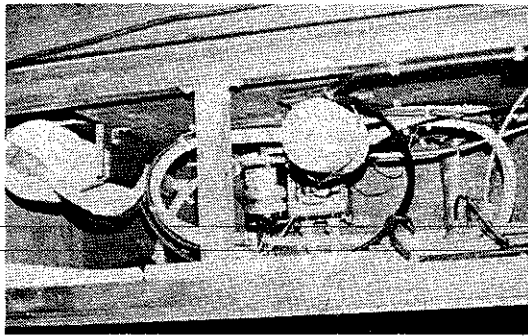
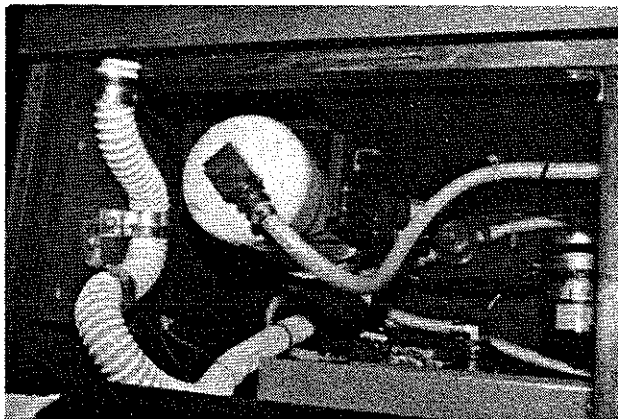

Figure 5-3. Water Pump Location
Figure 5-4. Water Purifier Location
The air accumulator and water pump are shown in figure 5-3; the water purifier and water tank drain valve are shown in figure 5-4.
The water pump, figure 5-3, is equipped with a factory-calibrated pressure control switch which is preset to turn the pump on when the system pressure falls below 20 psi; and turn the pump off when the pressure reaches 35 psi. If the pump has been out of service for a period of time, it is advisable to open a faucet before turning the pump on. When water flows steadily from the opened faucet, close faucet and observe that pump shuts off when system becomes pressurized. (it may also be necessary to bleed the air from the other faucets as well.) When the potable water supply tank(s) level is low, or empty, shut the pump off to prevent possible damage to the pump motor. In addition to integral motor overload protection, the pump mechanism is also protected from jamming by the presence of an inline filter (pump guard) between the pump and the supply tank.
The bacteriostatic water purifier, figure 5-4, filters and purifies the potable water supply to eliminate tastes, odors and coloration produced by chlorine, rust, insecticides, detergents, sediment and other foreign objects. Satisfactory elimination of water-borne disease-carrying bacteria is accomplished by a hygienic filter bed which consists of silver ions absorbed on sponge silver metal which is deposited in a finely divided form on granular activated carbon of high surface area.
7. Set **Water Purge Air Pressure** switch, figure 5-2, to **On** to activate the solenoid which applies air pressure to the input water line to purge the water system. Note that it may be necessary to start the engine to build up air pressure. An air hose must be connected momentarily to the valve fitting on top of the accumulator, figure 5-3, to be sure that no water remains.